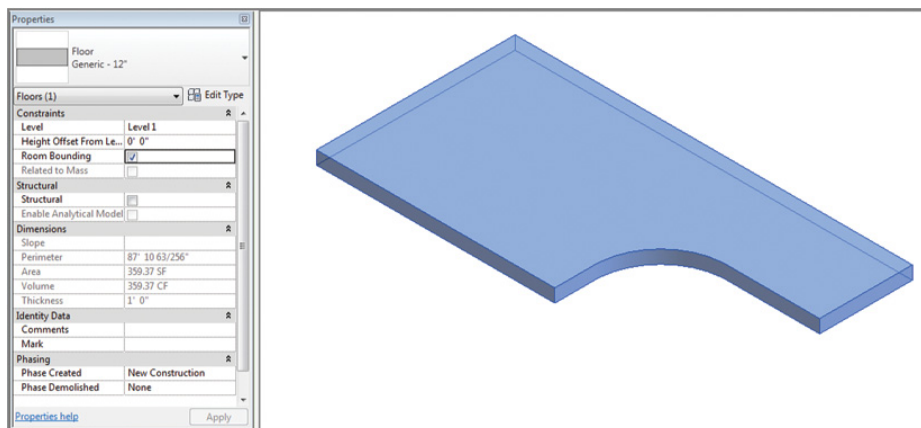

FIGURE 3.3 The modified floor
3. Finish the sketch by clicking the green check button. Select the floor, and notice that the options and metadata have already updated, as shown in Figure 3.3.